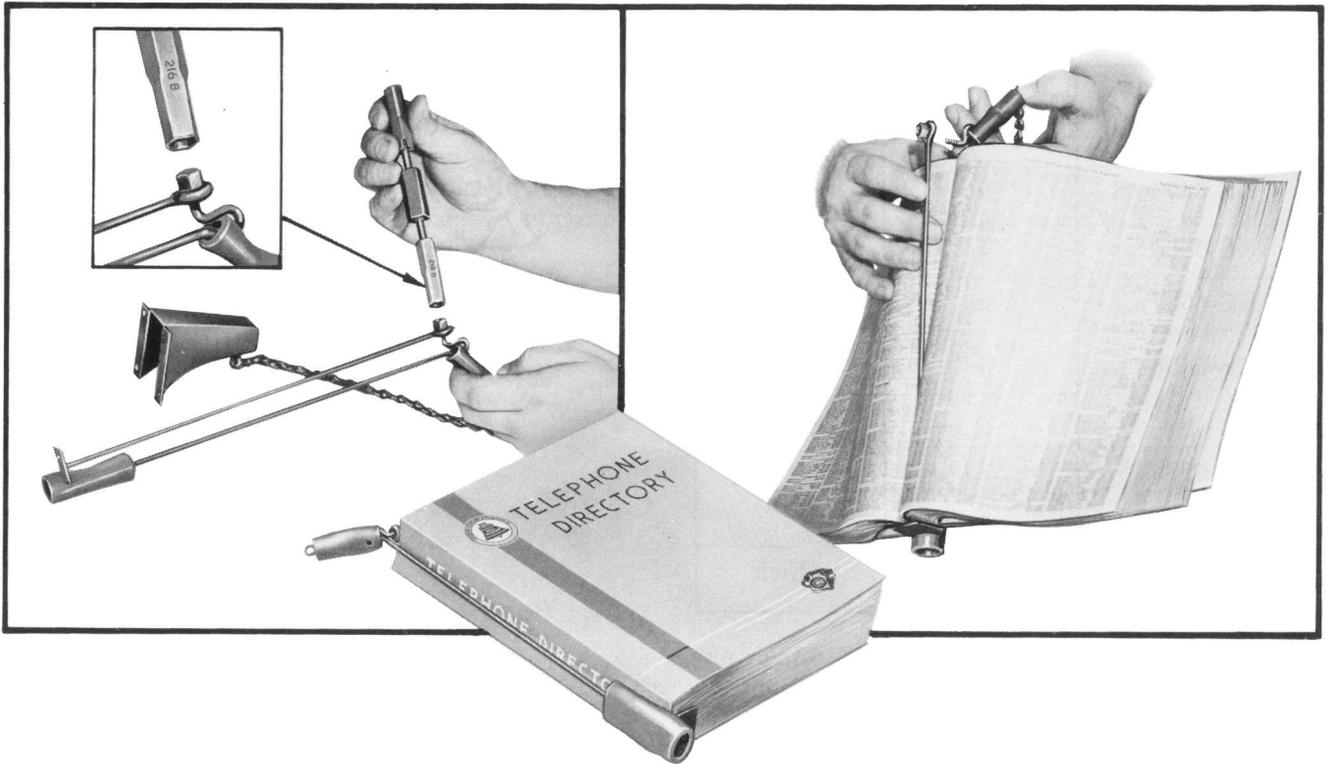

Fig. 5 — Installing Directory in KS-13350 Hanger Clamps
2.06 Place directory in KS-13350 hanger clamps as shown in Fig. 5.